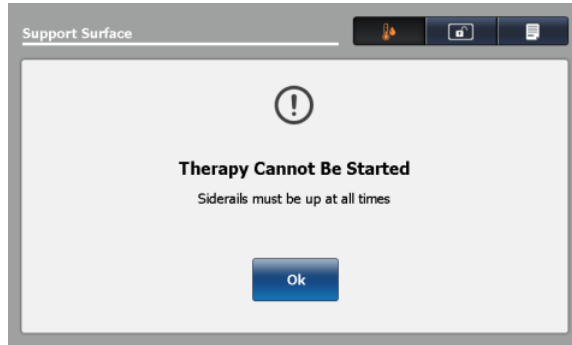

Figure 53: Notification — siderails not raised
**Note:** If you do not raise all of the siderails, a notification will display (Figure 53 on page 67). Tap **OK** to return to the previous screen.